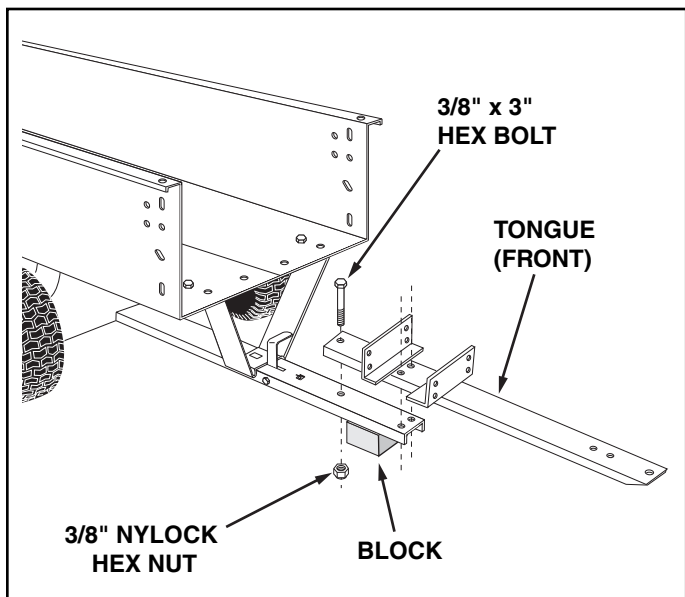

FIGURE 8
14. Assemble the front tongue on top of the rear tongue using three 3/8" x 3" hex bolts and 3/8" Nylock hex nuts. See figure 8.